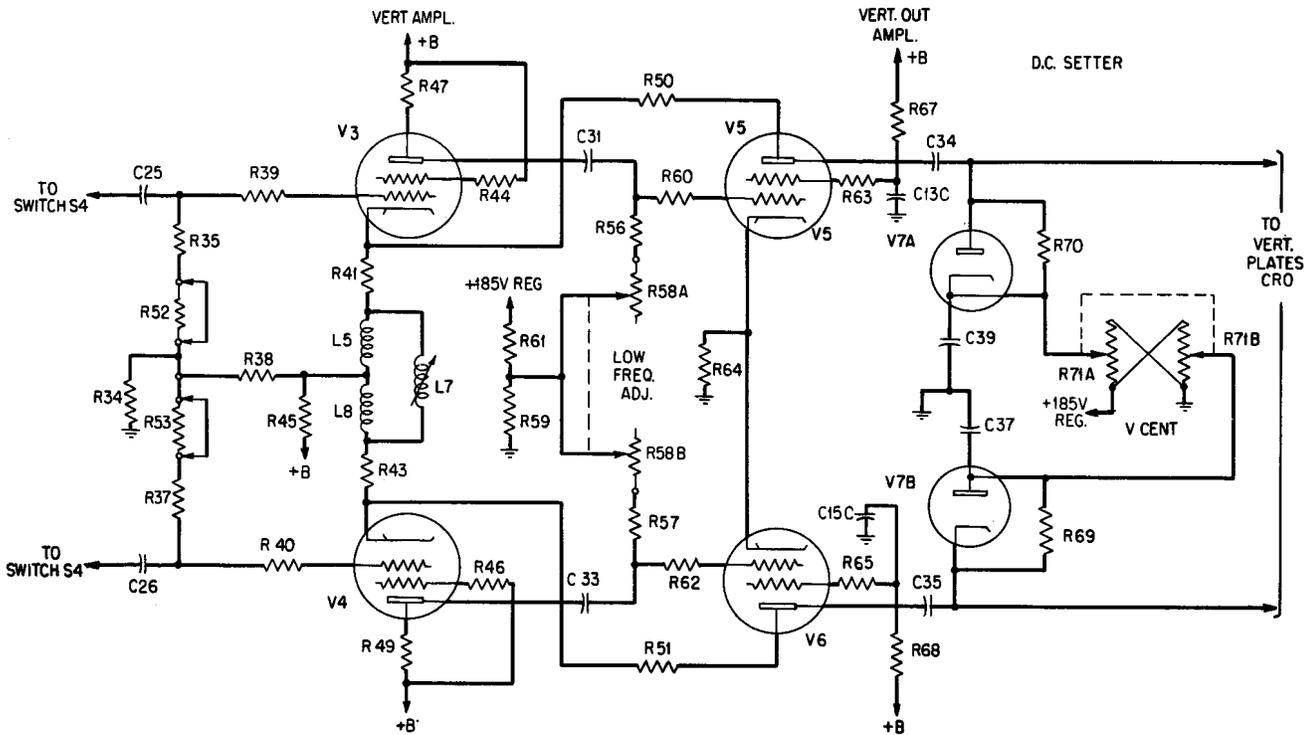

Fig. 8 - KS-15512, List 5 Oscilloscope Vertical Output Amplifier Circuit and DC Setter
4.13 (D) Vertical Output Amplifier and DC Setter: (See Fig. 8) The vertical output amplifier consists of a two-stage balanced feedback amplifier having a forward voltage gain of 30 db and 18 db of voltage feedback. To conserve plate current electron tube V5 is placed in